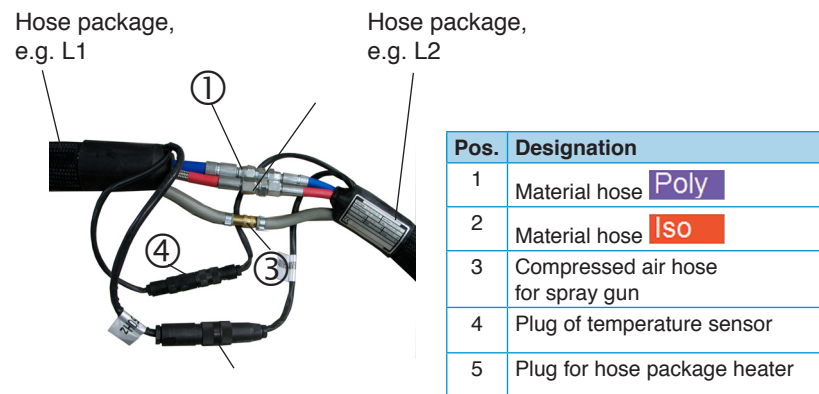

Figure 4.2
- Connect the individual hose package segments, (Figure 4.2). The hose package can be made up of several hose package segments of 15 m each. The assignment of the individual material hoses can be recognized by the colour coding.